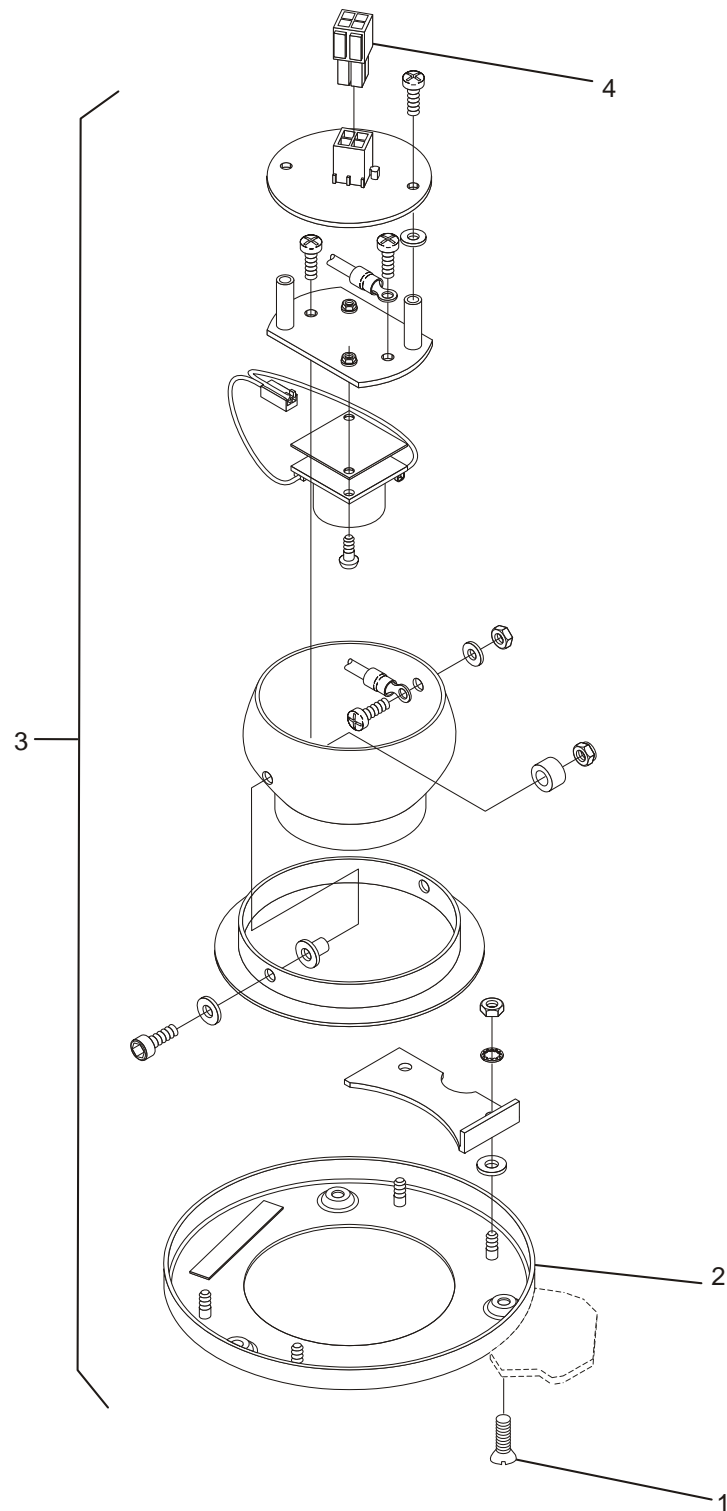

Figure 7-4: Replace Overhead Cab Console Light
2. Remove three screws (1, Figure 7-4) from fixture cover (2).
3. Partially remove the cab console light assembly (3) and disconnect the four-circuit nylon connector plug (4) at the back of the assembly. The complete cab console light assembly (3) may now be removed.
4. Align the replacement cab console light assembly (3) with cab ceiling.
5. Connect the four-circuit nylon connector plug (4).
6. Install the complete cab console light assembly (3) and fasten the cover (2) with three screws (1).